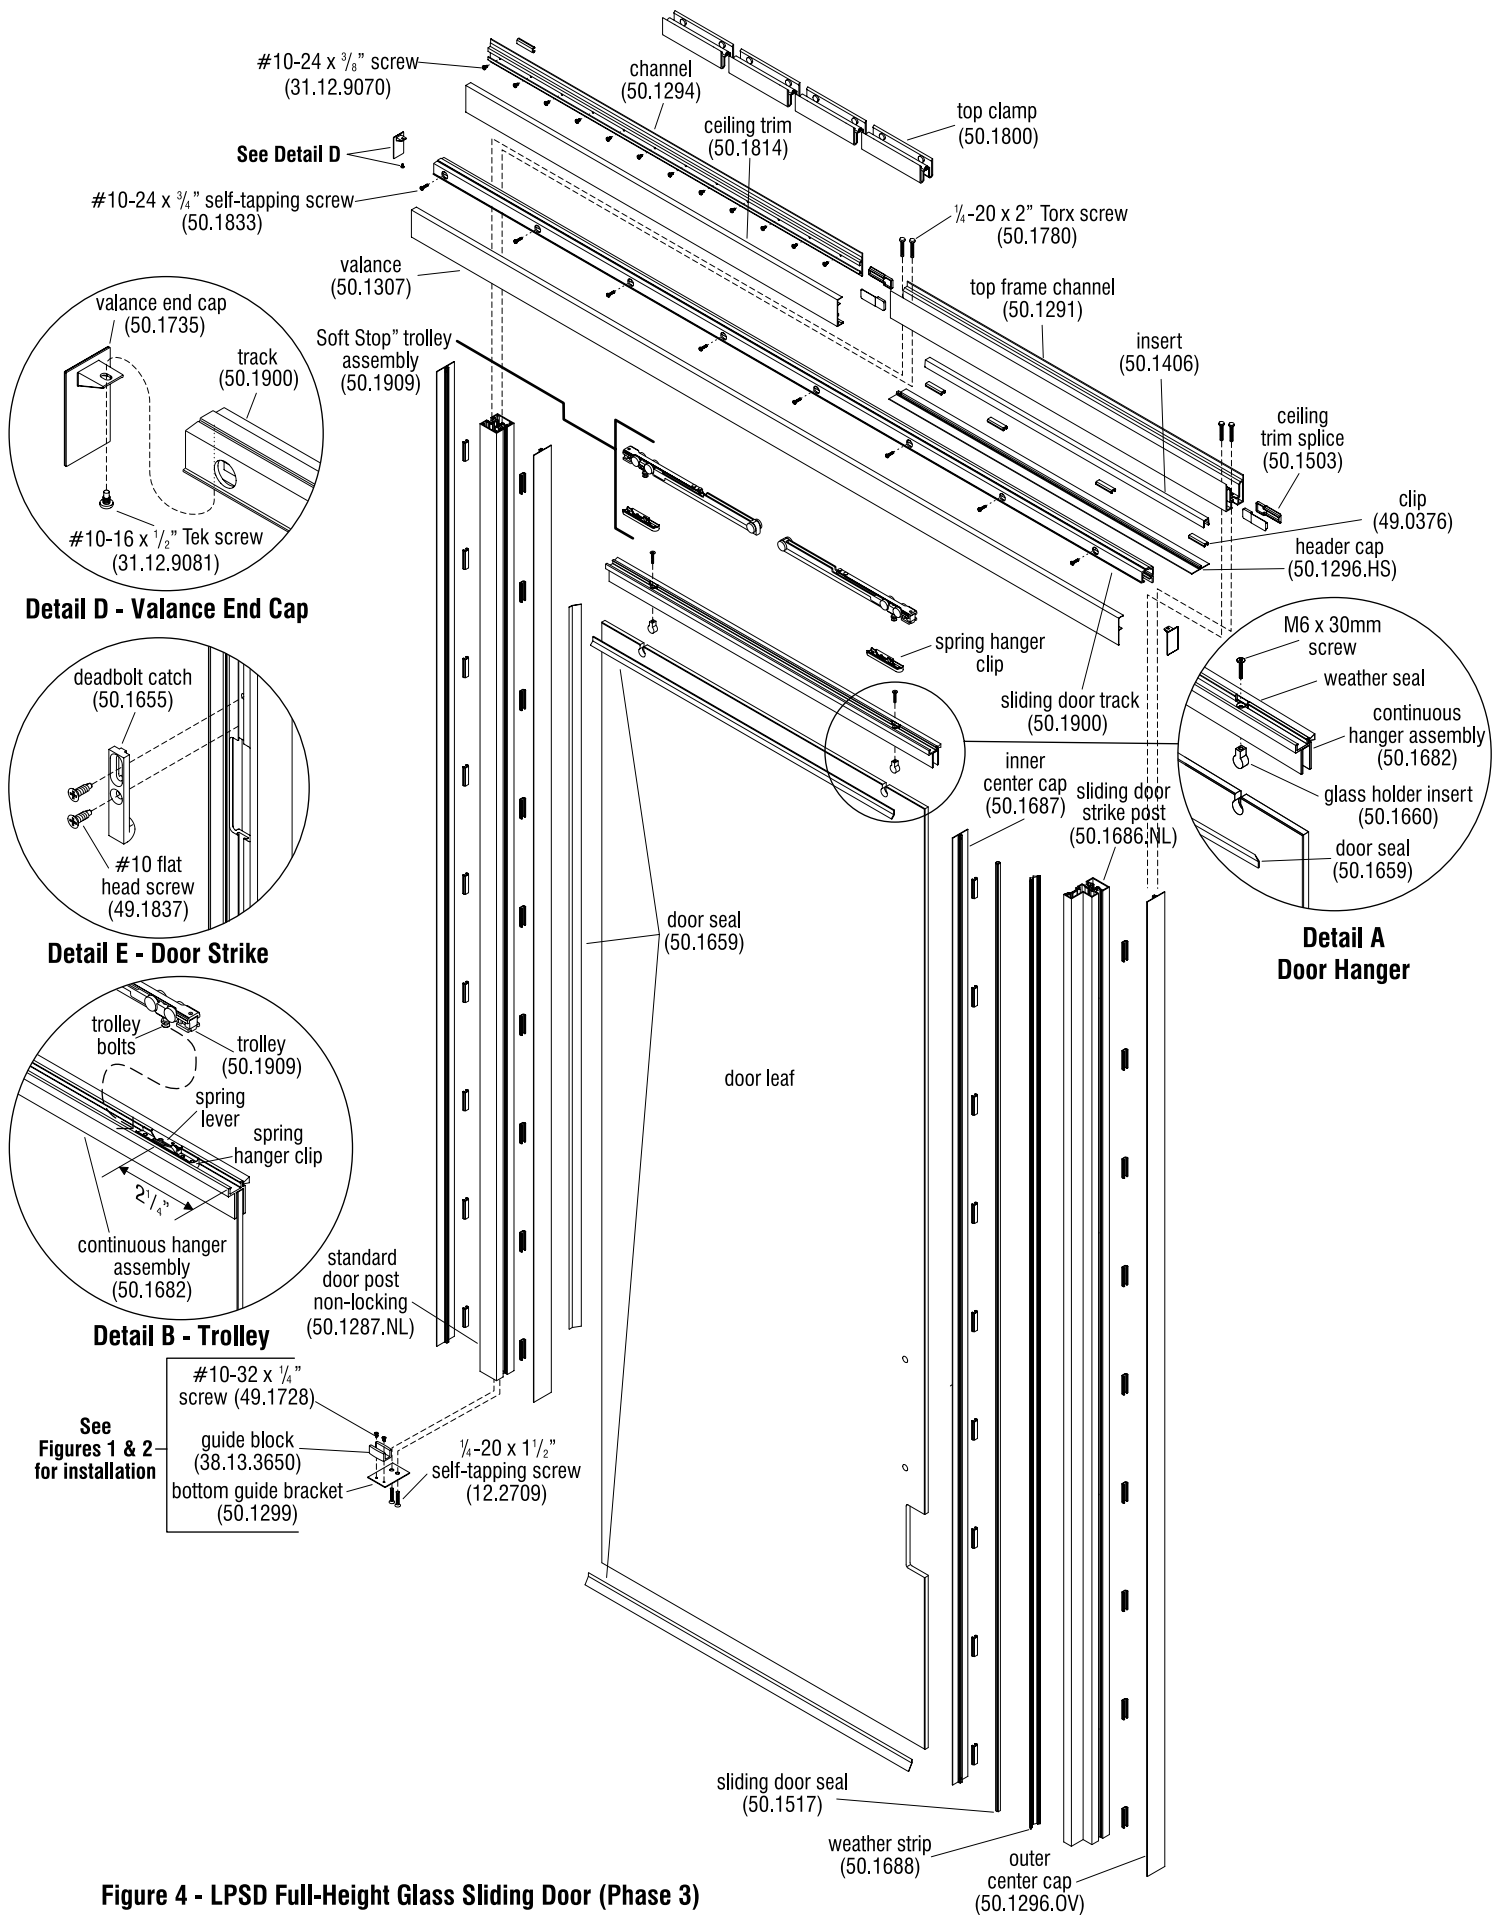

Figure 4 - LPSD Full-Height Glass Sliding Door (Phase 3)
Important: Site dependent on the panel widths adjacent to the location where a sliding door will install, if the length of the channel (50.1294) (page 44 Figure 1 & page 46 Figure 4) extends longer than one panel width (such as with narrower panels), the second panel will also require use of "additional top clamps" for support of the channel. Four clamps are provided per sliding door, so two each "additional top clamps" should be used for each of the two panels requiring the additional top clamps. In the case of one wider panel where channel (50.1294) does not extend to another panel, use three extra additional top clamps as illustrated in Figure 1.
1. To determine what length the "standard non-locking door post" must be cut to, first install into position a sample piece of ceiling trim onto the ceiling rail at the door post location. Determine the length by measuring from the bottom of the installed sample ceiling trim, down to the floor at that post location and record that measurement. If carpet is present, account for extra length that the post will sink into carpet, and also remove length for the $\frac{1}{16}$ " thickness of the bottom guide bracket (50.1299) (Figure 4).
2. Locate the standard non-locking door post, measure from the top of the post to the bottom and mark the recorded measurement onto the post at the bottom end. Cut the bottom of the post off square at that length (Figure 4).
3. To determine what length the "sliding door strike post", follow step 1 above (Figure 4).
4. Locate the standard sliding door strike post, measure from the top of the post to the bottom and mark the recorded measurement onto the post at the bottom end. Cut the bottom of the post off square at that length (Figure 4).
5. Stand both door posts up under the ceiling rail at their respective installation locations, take into account the bottom guide bracket which will be installed to the standard non-locking door post later, and check that the posts are cut to the correct height. Remove the sample ceiling trim once the posts are known to be the correct height (Figure 4).
6. Lay the standard and sliding door strike posts with the top frame channel onto a soft protective surface on the floor in the correct orientation. Secure three pieces together using four $\frac{1}{4}$ -20 x 2" Torx screws (50.1780) (Figure 4).
11. Position the channel (50.1294) onto the additional panel clamps and push it up until it fully seats against the ceiling rail and against the sliding door frame. Secure the channel to the clamps using twelve #10-24 x $\frac{3}{8}$ " screws (31.12.9070). Assure the screws secure into the clamps and not into gaps between them (Figure 4).
12. Install the ceiling trim (50.1814) over the installed channel (50.1294), butting it against the top frame channel (50.1291) (Figure 4).
13. Locate the sliding door track (50.1900) and assure it is clean and free of debris. With the assistance of two people, position the track against the top frame channel and the ceiling trim about $1\frac{1}{8}$ " from the bottom of the top frame channel to the bottom of the track (Figure 4). Mark each screw hole.
15. Position the track over the pilot holes and secure using eight #10-24 x $\frac{3}{4}$ " self-tapping screws (50-1833) (Figure 4).
16. Insert the trolley assembly (soft stop trolley assembly, 50.1909 or bumper stop trolley assembly, 50.1680 - not shown) into the door track (Figure 4). See separate instructions included with the door stops and trolleys.
17. To hang the sliding door leaf, begin by attaching the continuous hanger assembly (50.1682) to the top of the door leaf. First, apply a strip of seal (50.1659) across the top of the door leaf aligning the non-taped edge to the top edge of the door leaf (Figure 4 & Detail A).
18. Next, remove the M6 x 30mm screws from the glass holder inserts (50.1660) and place the glass holder inserts into the notches at the top of door leaf. Then, slide the continuous hanger assembly over the top of the door leaf (Figure 4, Detail A).